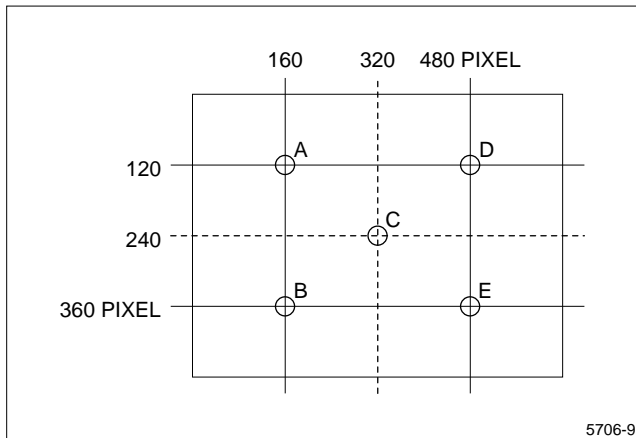

Figure 7. Definition of White Uniformity
- White Uniformity is defined as the following with five measurements (A-E) (Refer to Figure 7):  $\frac{\text{Maximum Luminance(brightness)}}{\text{Minimum Luminance(brightness)}}$